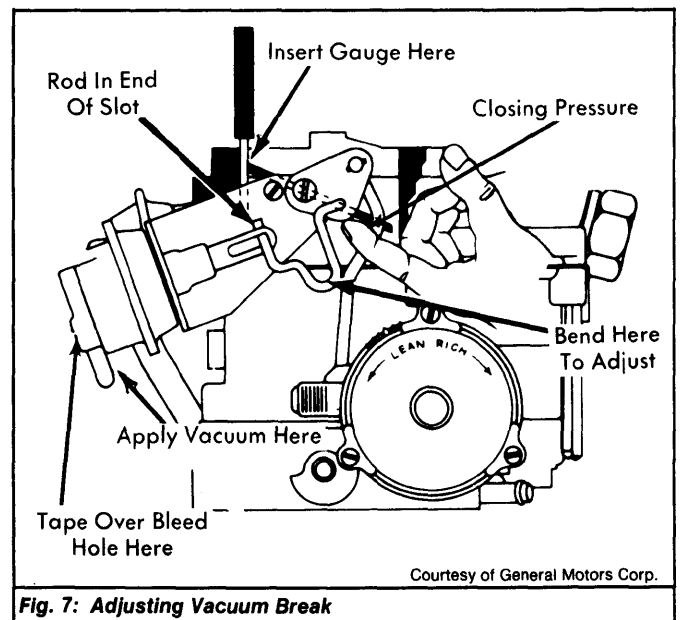

Fig. 7: Adjusting Vacuum Break
- 1) Place idle speed screw on highest step of fast idle cam. Using an outside vacuum source, apply enough vacuum to seat diaphragm. See Fig. 7. Stem should retract when vacuum is applied.